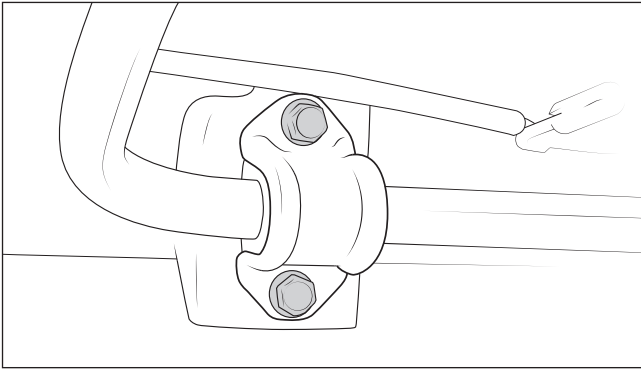

Figure 6
12. Remove the left side sway bar bolts from the axle (fig. 6).